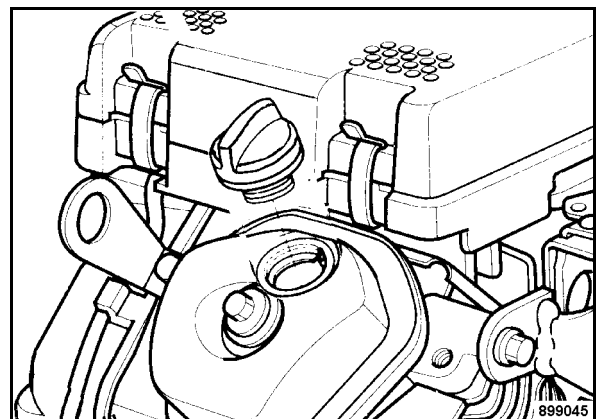

Fig. 75
- Remove the cover from the oil filler opening (Fig. 75).